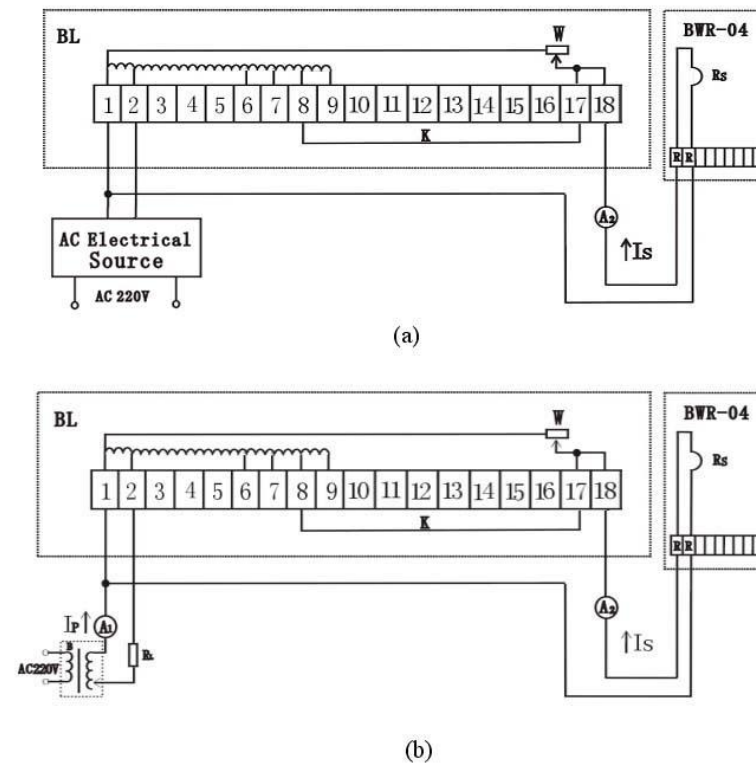

Figure 7 Adjusting connection of the convertor
(4) Calculate I_s/I_p , after according to the value of I_p and I_s/I_p , depending on Table 1, It will be that the adjusting lead K is the wiring point. For example $I_s/I_p = 1.04/5 = 0.208$. Depending on Table 1, K from No.17 to No.8.
(5) Connect which as figure 7 shows.